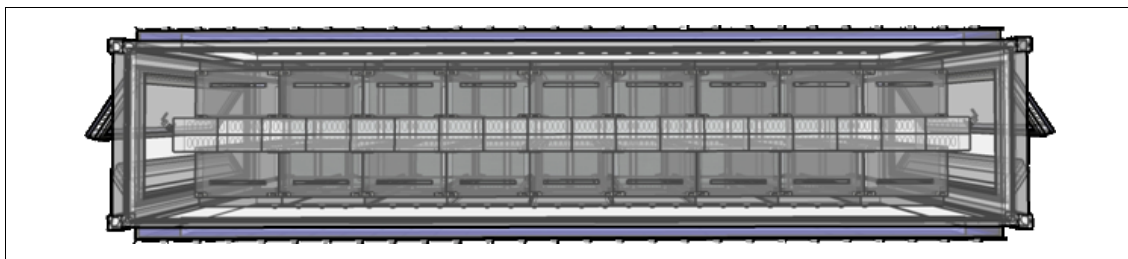

Figure 6-34 An iDataPlex Portable Modular Data Center Container with 18 systems
- ▶ A 12 m (40 foot) container with 18 iDataPlex racks, shown in Figure 6-34
The most densely packed PMDC is the 12 m (40 foot) container with 18 iDataPlex racks, shown in Figure 6-34. In this configuration, each rack can have 84 compute nodes, each with two quad-core CPUs, making up to 12,096 processor cores in one container.